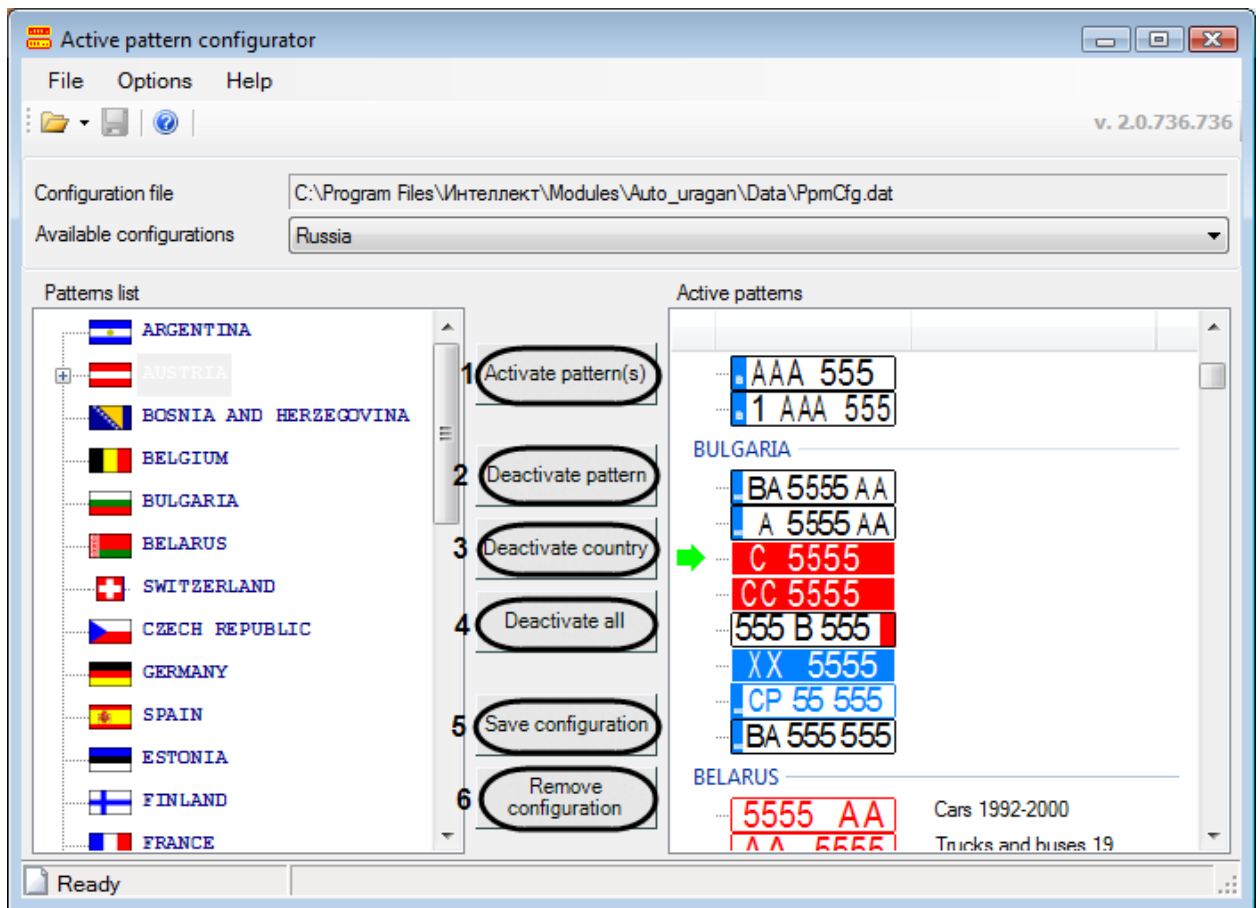

Fig. 12.3—6 Edit the list of configuration patterns
2. Select the pattern and click «Deactivate pattern» to remove it from the list of active patterns (Fig. 12.3—6, 2).
3. Select the pattern of some country and click «Deactivate country» to remove all patterns of this country from the list of active patterns (Fig. 12.3—6, 3).
4. Click «Deactivate all» to clear the list of active patterns (Fig. 12.3—6, 4).